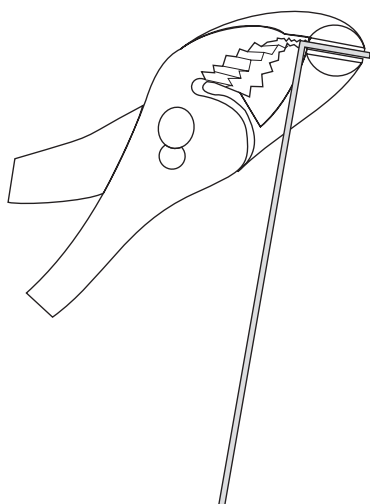

Figure 1
► **Note:** You will need bend the wires as illustrated in Figure 1. (The direction of the bend is not critical).